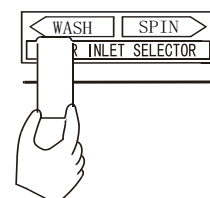

Figure 1
- (1) Set fill selection to “Wash side”. (Figure 1)
- (2) Adjust water level rod to a position as needed.